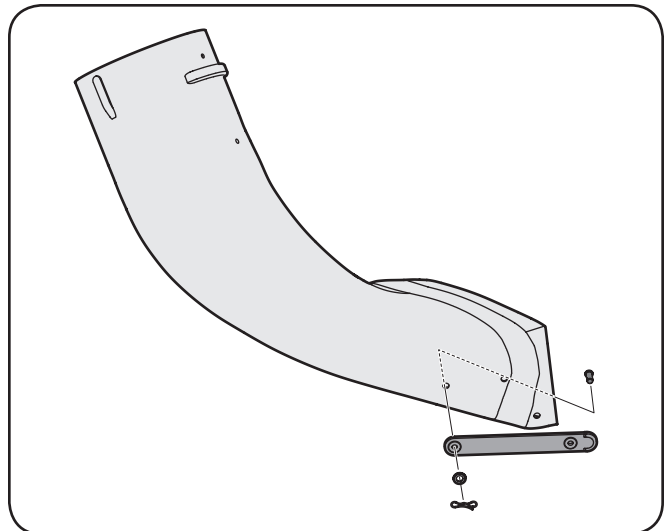

Figure 4-20
- Install the rubber chute strap on the chute elbow using the supplied clevis pin, washer and Bow-tie cotter pin. See Fig. 4-20.